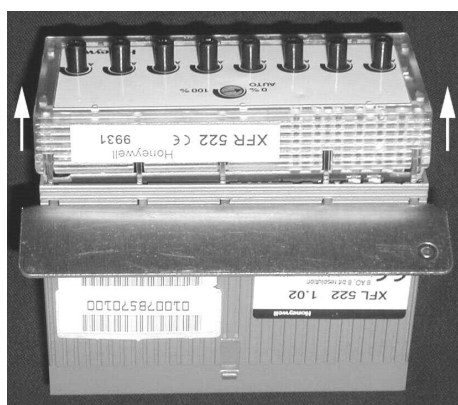

Fig. 16. Lifting the cover off
2. Lift off the cover as is depicted in Fig. 16.